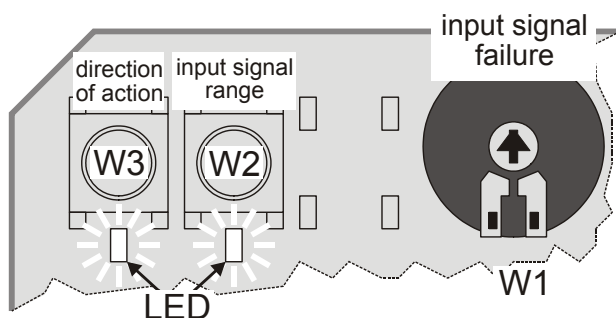

Fig. 1. Pushbuttons and potentiometer (default positions)
* Factory setting; can be reversed by pressing the right-hand pushbutton (W3) located on the PCB (see Fig. 1).
The direction of action can be reversed by pressing the left-hand pushbutton (W3) located on the printed circuit board (see Fig. 1). If the corresponding LED is lit, this indicates that the actuator stem will retract at a control signal of 0(2) Vdc (factory setting); if it is dark, the actuator stem will extend at a control signal of 0(2) Vdc.
The range of the analog input signal Y can be changed by pressing the right-hand pushbutton (W2) located on the printed circuit board (see Fig. 1). If the corresponding LED is lit, this indicates that the actuator is set for 0...10 V operation (factory setting); if it is dark, the actuator is set for 2...10 V operation.
Using the potentiometer (W1) located on the printed circuit board (see Fig. 1), the actuator can be adjusted such that in case the signal input fails (due e.g. to a broken wire) or exceeds 12.5 V, the actuator will run to any pre-configured position between 0% and 100%. The factory setting is with the actuator stem in the central position (50%).